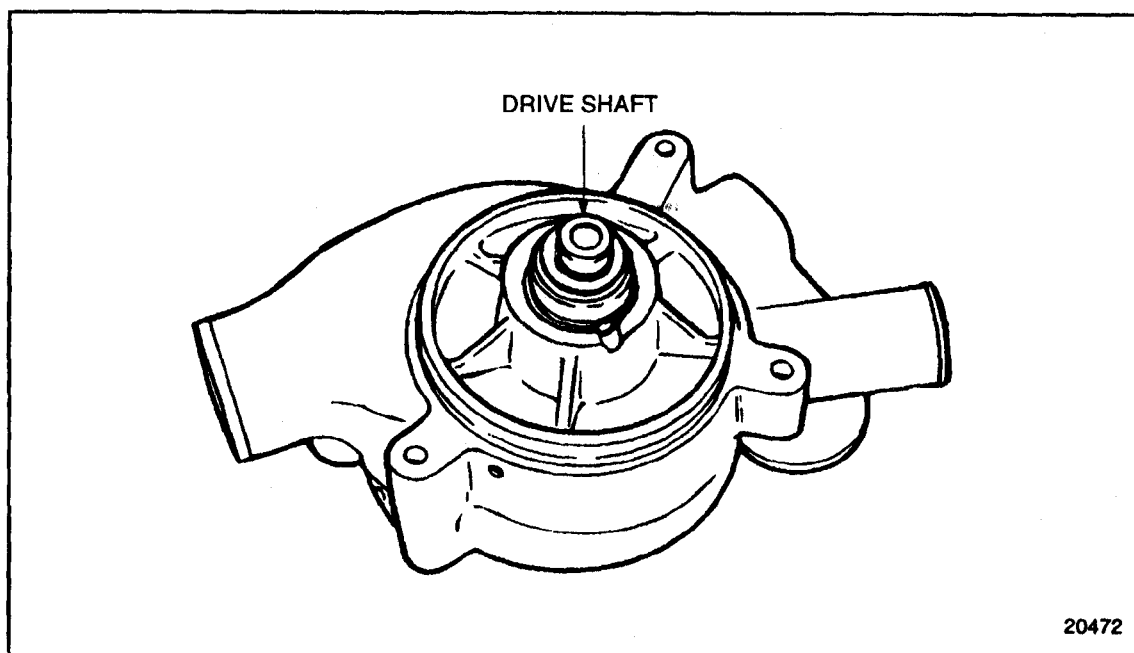

Figure 4-22 Drive Shaft Insertion (GCM)
7. Install the drive shaft, with bearings installed, to the water pump housing. See Figure 4-22.